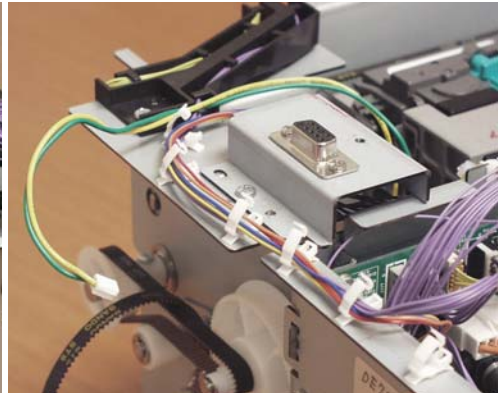

Figure 5-19 Open Wire Clamps
4. Carefully snap open wire clamps as shown to free motor harness (Figure 5-19).